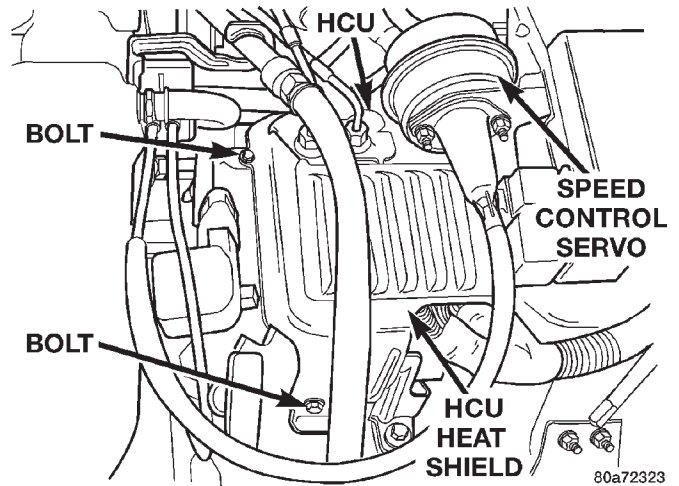

Fig. 26 HCU Heat Shield Attachment
- (6) Remove the 2 bolts (Fig. 26) mounting the heat shield for the hydraulic control unit (HCU) to the HCU mounting bracket.
(8) Install the heat shield for the HCU (Fig. 26) on the HCU mounting bracket. Install the 2 bolts (Fig. 26) attaching the heat shield to the HCU mounting bracket.